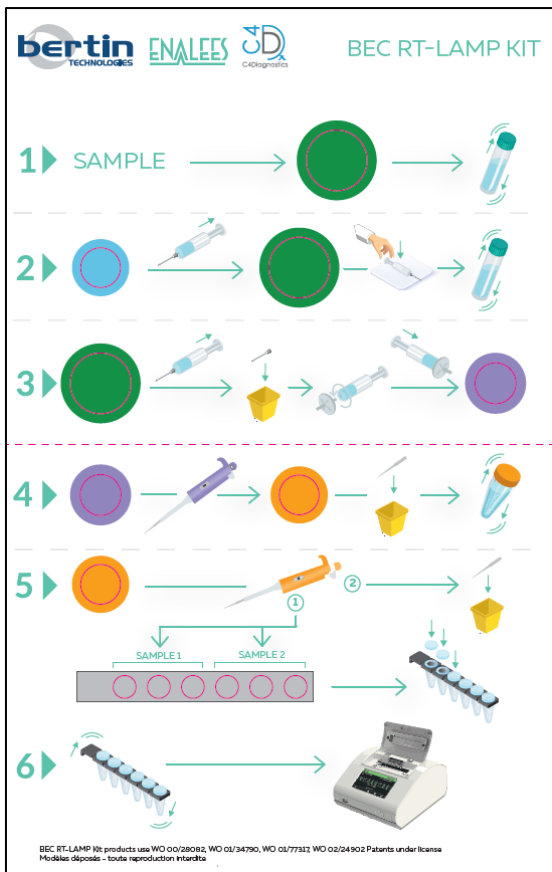

Figure 2: Rack that is provided for easy handling of the tubes.
- A cardboard rack, which makes it easier to handle the tubes, see Figure 2.
- Place the different tubes on the cardboard rack provided with the kit, respecting the color codes, see Figure 2. **Do not open the tubes at this stage.**
- a) Open the green tube (BEC SARS-CoV-2 Lysing Buffer (green)) in position 1 on the rack (see Figure 2).